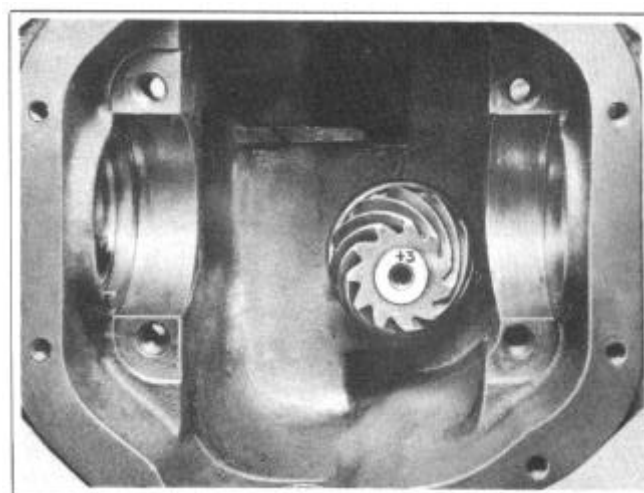

FIGURE 47
10. Carefully observe the figures etched on the rear end of the drive pinion, Figure 47. One set of numbers will be found both on the end of the pinion and drive gear which identifies these parts as a matched set. Another figure will be found on the drive pinion prefixed with a plus "+" or minus "-" sign which indicates the axial position of the pinion in relation to the center of the axle. If there are no figures prefixed with a plus or minus sign it denotes a zero pinion setting and a zero "0" mark will be shown.